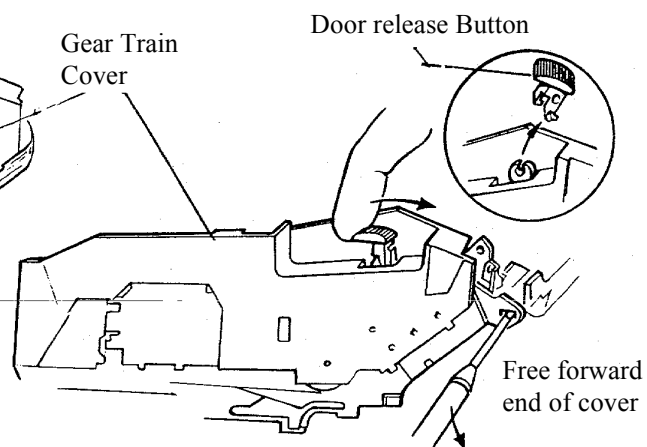

Figure 4-13d
- h. Remove Door Release Button by pushing it forward and lifting up (Figure 4-13d).
- i. Insert small screwdriver in slot at right end of Gear Train Cover and gently tilt handle down to release the Cover (see Figure 4-13d). Door latch must be in the "down" position: push down on end of Door Latch nearest gear #4.